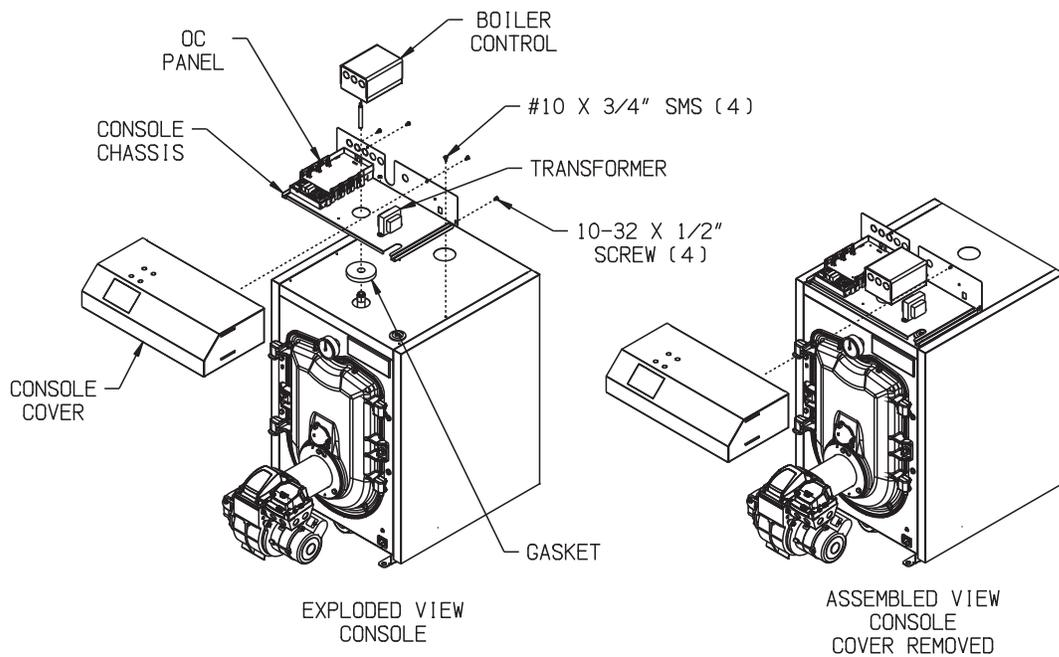

FIGURE 4: LOCATING THE OC PANEL ON FWZ BOILERS
3. Place the gasket over the well so that it rests on top of the jacket. (Figure 4)
4. The control chassis, OC Panel, transformer and wire harnesses have been preassembled at the factory. Line up the four mounting holes in the control chassis to the prepunched holes on the top jacket panel and fasten with (4) #10 x 3/4" sheet metal screws. See Figure 4.